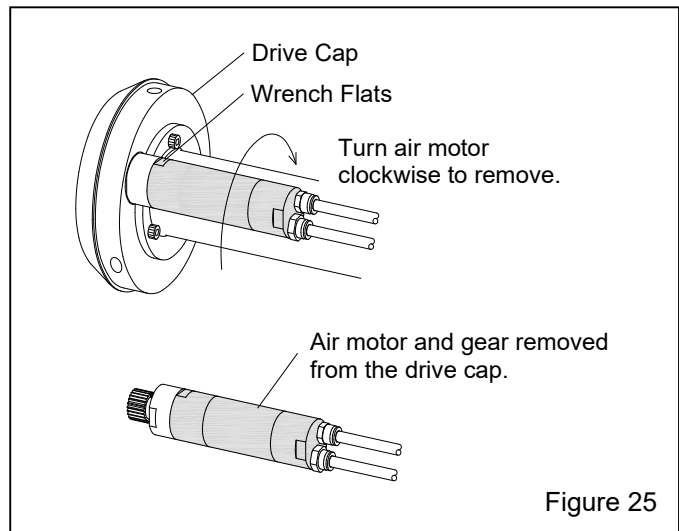

Figure 25
**8.5 Air Motor and Air Motor Gear Removal and Inspection – Figure 25**
**8.5.1** The air motor has left-handed or reverse threads; to remove the motor from the drive cap, turn the motor clockwise, as shown in Figure 25.